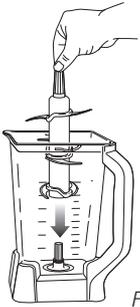

Fig. 1
**1** Holding the Stacked Blade Assembly by the top of the shaft, place it onto the drive gear inside the pitcher. Ensure that the attachment is seated properly and is standing upright. **(Fig. 1)**
**NOTE:** Nutri Ninja® | Ninja® Blender Duo™ with Auto-iQ™ Technology can sense which jar is on the motor base. The available function lights will illuminate depending on which jar is placed on the motor base. (Fig. 1)